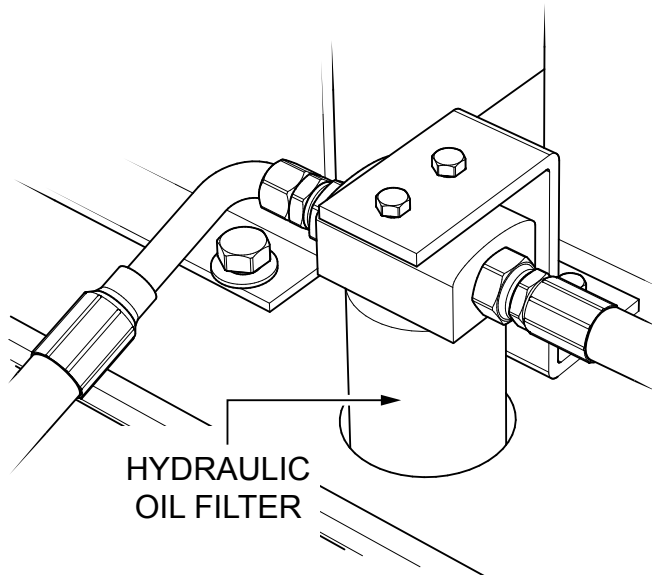

Figure 42. Hydraulic Oil Filter
1. Replace the hydraulic oil filter (Figure 42) every 200 hours. Replace with only recommended type filter.